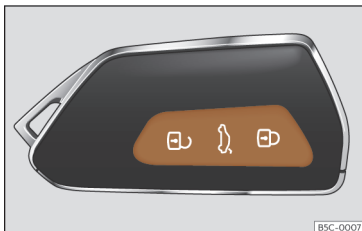

Fig. 74 Remote control key: keys.
- Lock: press the >>> **Fig. 74** button.